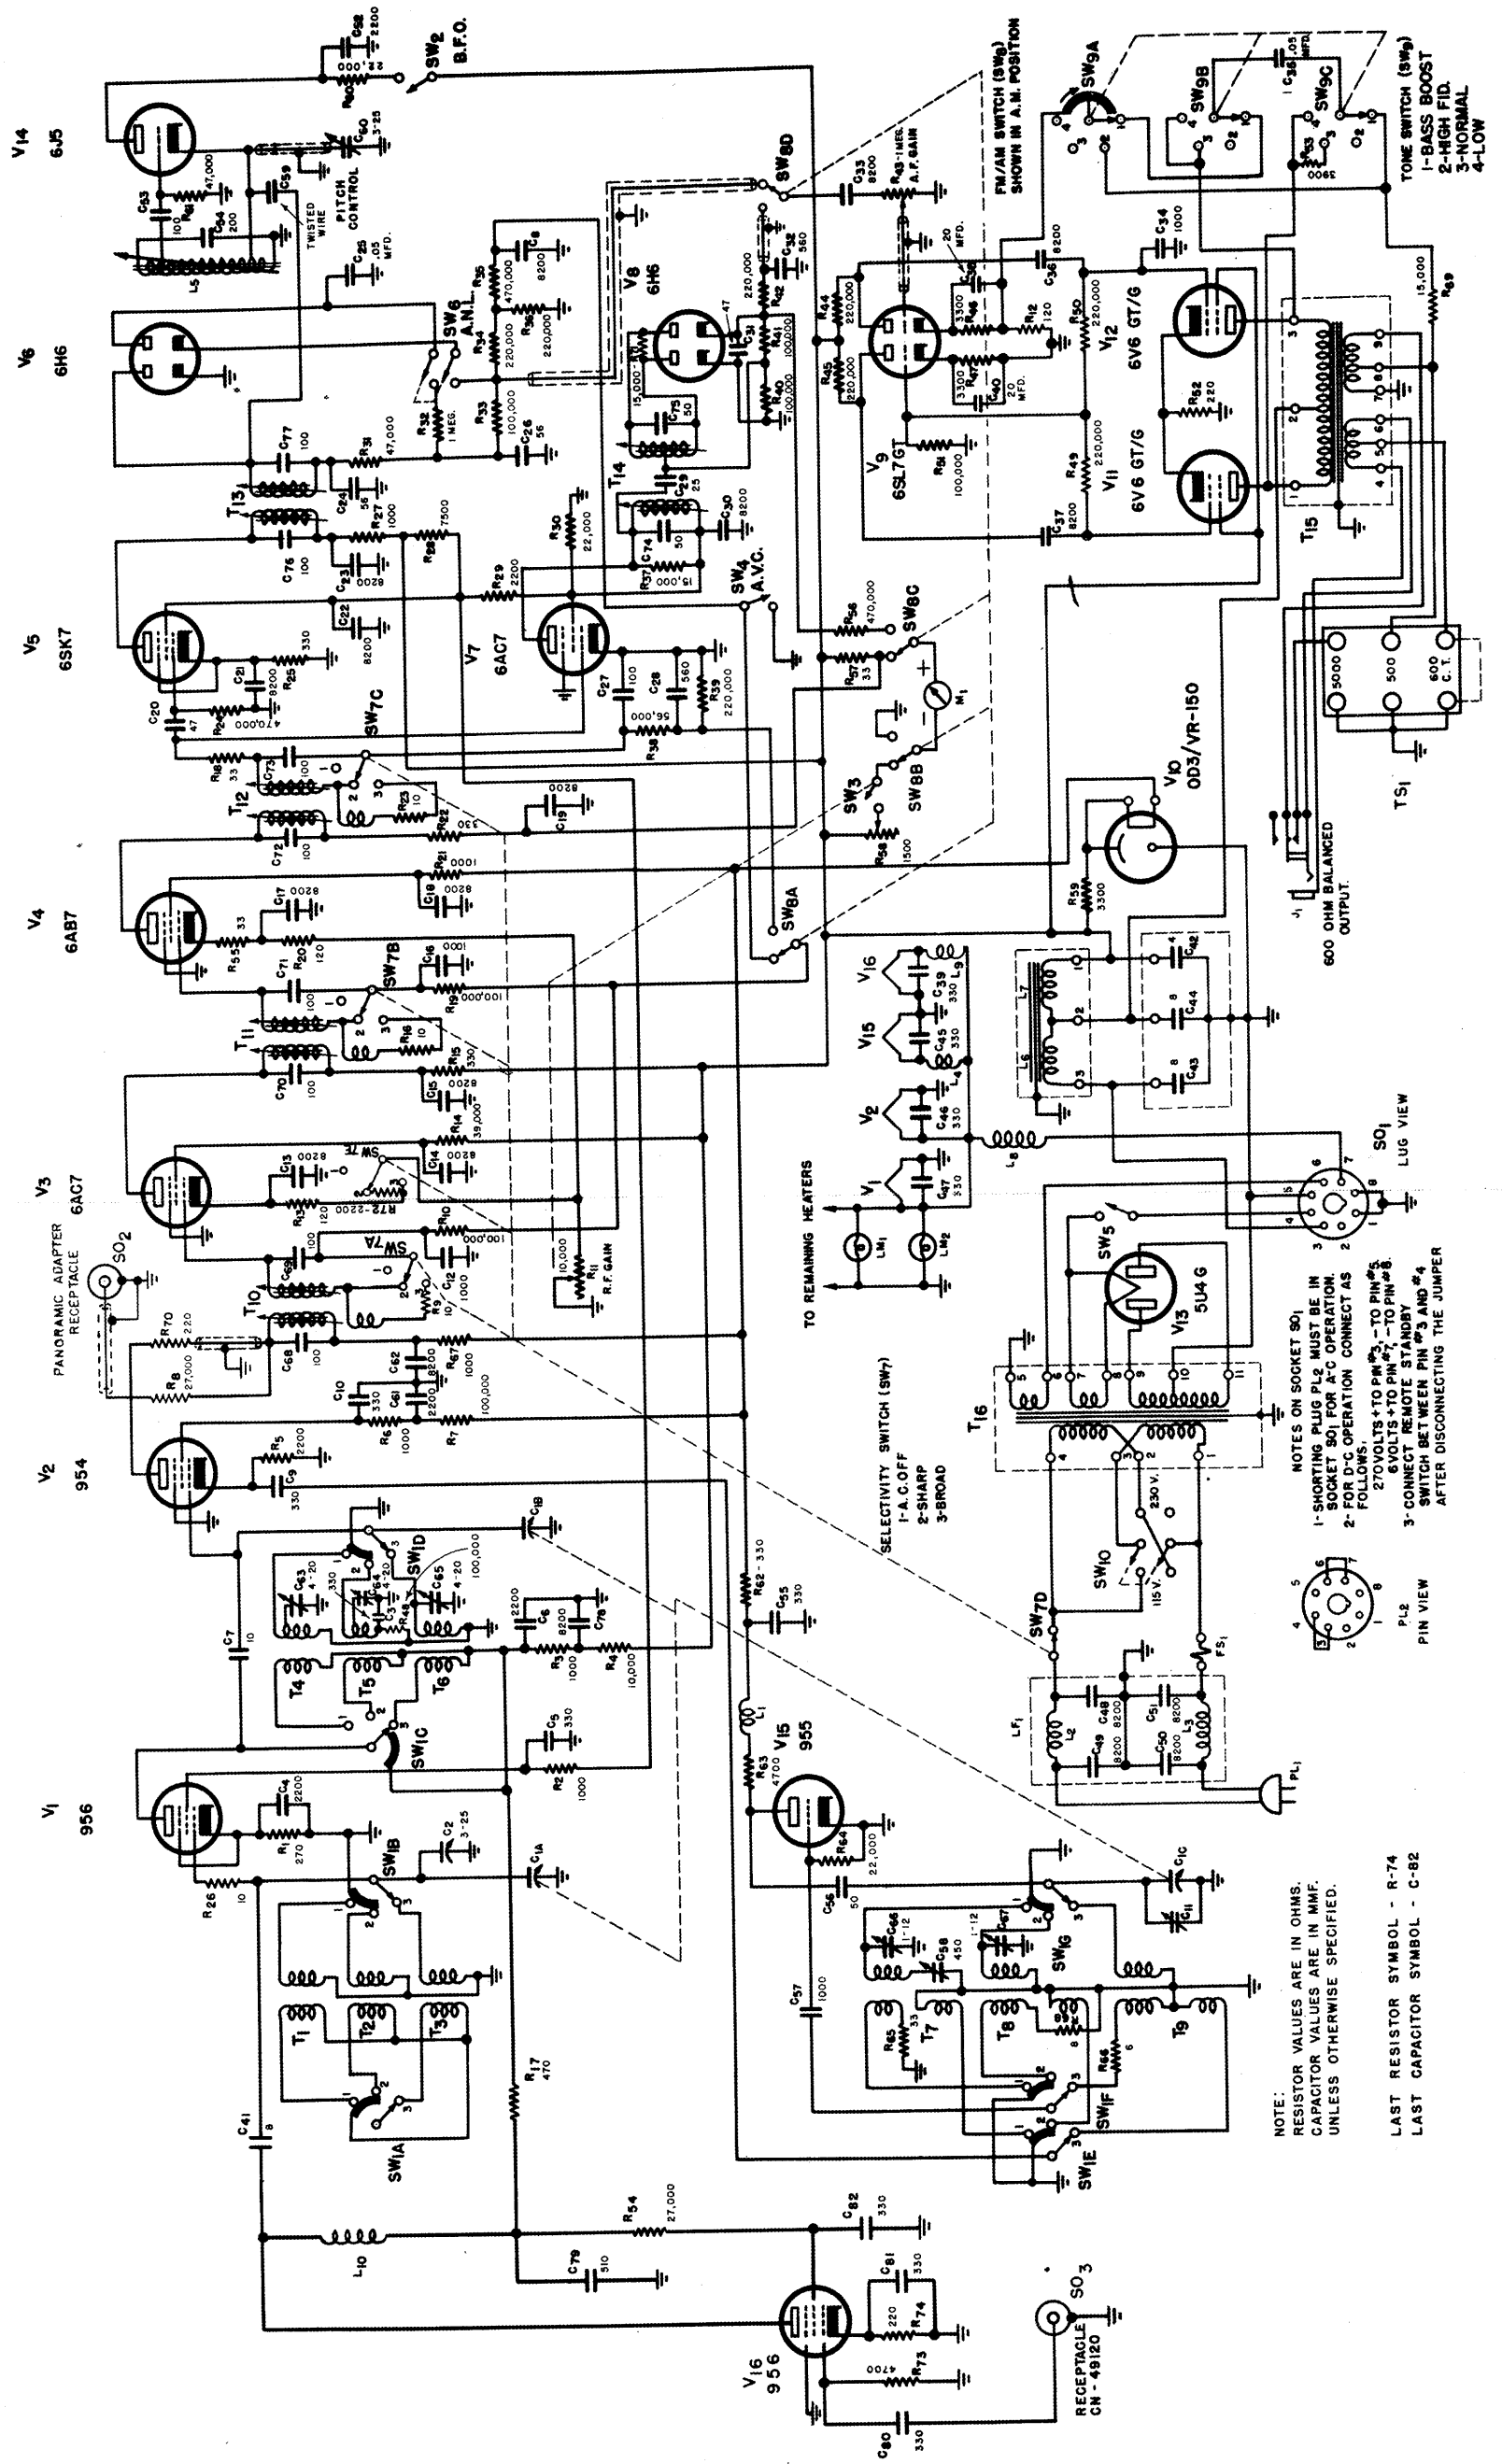

Figure 3. Radio Receiver CHL-46298, Schematic Diagram
| Figure 3. Radio Receiver CHL-46298, Schematic Diagram . . . . .           | 3           |
**A-2. RECEIVER UNIT.**— Radio Receiver CHL-46298 is a ultra-high frequency super-hetrodyne radio receiver capable of receiving both amplitude modulated (A-M) and frequency modulated (F-M) phone signals and continuous wave (C-W) telegraph signals. Automatic volume control (A-V-C) and automatic noise limiter (A-N-L) circuits are incorporated. See figure 3 for the schematic circuit diagram.
**A-3, CIRCUIT DESCRIPTION.**--Refer to the schematic diagram, figure 3. Since the circuit functions of bands 1, 2 and 3 are essentially identical this discussion will describe the circuit with the BAND SWITCH (SW1A to SW1G) set at band 3, as shown in the schematic diagram. The BAND SWITCH (SW1) selects the proper radio frequency, converter, and high frequency oscillator transformers to tune a given frequency range.
a. **A-C Operation.** - If the receiver is to be operated from an a-c line, check the setting of the 115/230-volt change-over switch (SW10), located on the chassis deck to the left of the power transformer, and see that it is set for the proper line voltage. Also see that the plug (PL2) on the rear apron of the receiver is in place. This is necessary to provide continuity in the power circuits. Refer to figure 3.